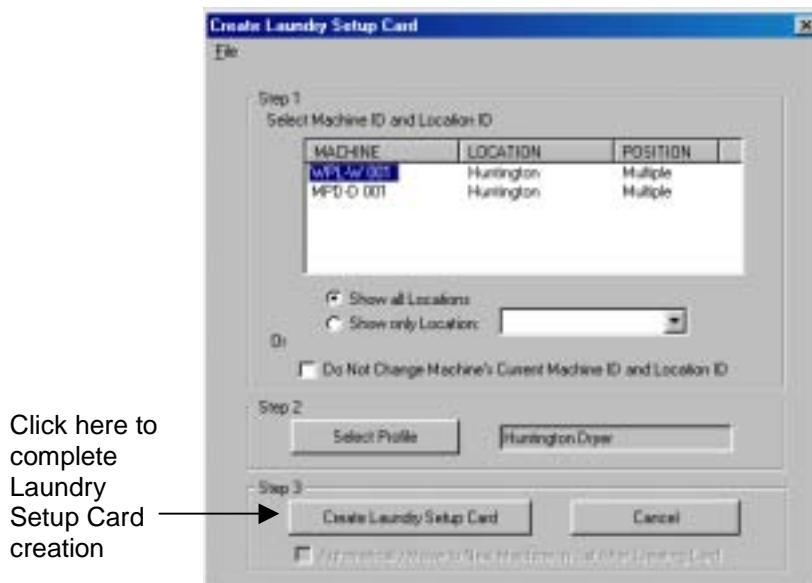

Figure 8.32 Creating the Laundry Machine Setup Card
6. Insert a management smart card into the PC reader (Section 2.4.2.) and click the Create Laundry Setup Card button (Figure 8.32).